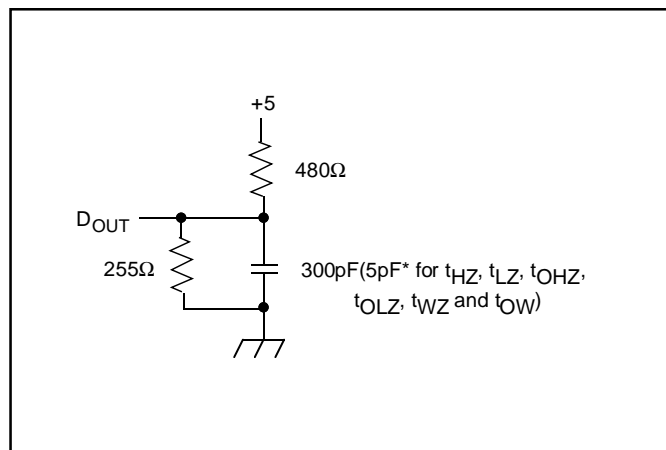

Figure 1. Output Load
8. Transition is measured  $\pm 200\text{mV}$  from steady state voltage prior to change, with loading as specified in Figure 1.
Output Load	See Figures 1 and 2